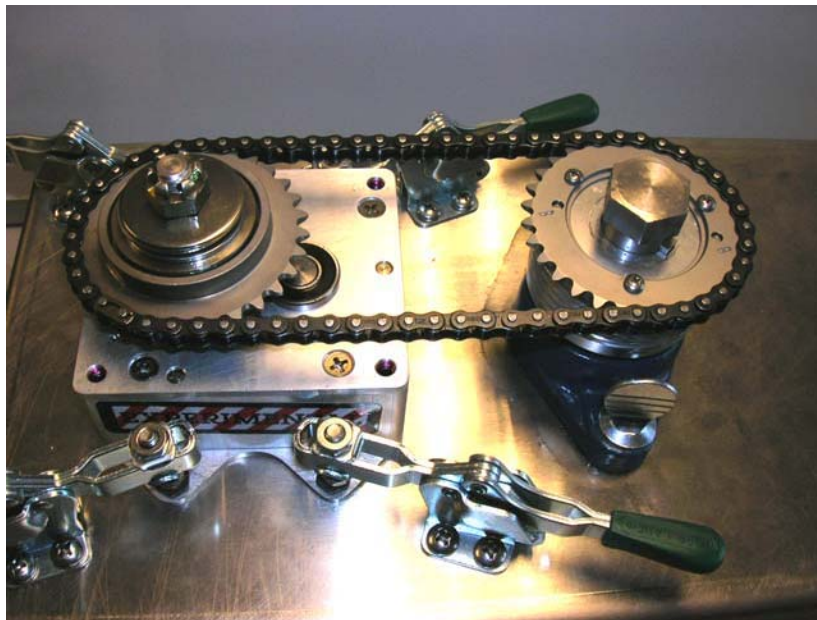

Figure 3-27. Chain slack removed
- 3) Turn the fixture adjustment knob enough to ensure the chain stays engaged on both fixture and unit sprockets (Figure 3-27). Continue to Section 3.3.7.5.